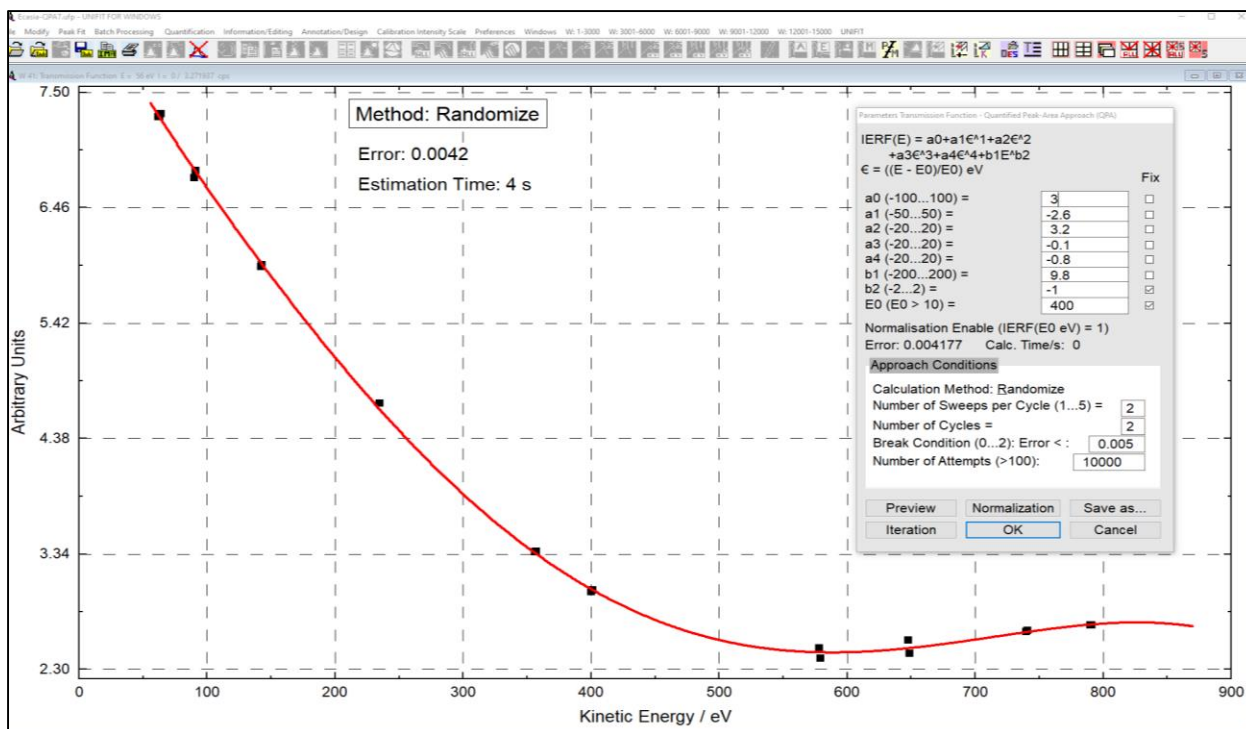

Fig. 4 Screen shots: left: Result presentation of the 'Randomize' method UNIFIT 2025
- f) A new iteration method of the QPA method were developed and integrated. Now, the iteration method '**Step by Step**' and '**Randomize**' are offered (see Fig 4).